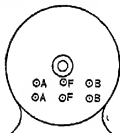

FIG. 203. Compound generator showing terminals.
**Prob. 6-9.** In Fig. 203, terminals *A-A* are connected to the armature, *F-F* to the shunt field coils, *B-B* to the series field coils. Show connections for a long-shunt compound generator, with a rheostat in the shunt field.
**Prob. 7-9.** Connect the generator in Fig. 203 as a short-shunt generator, with a rheostat in the shunt field.